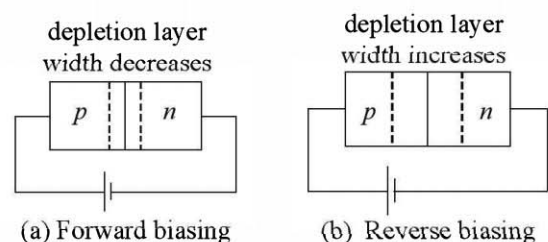
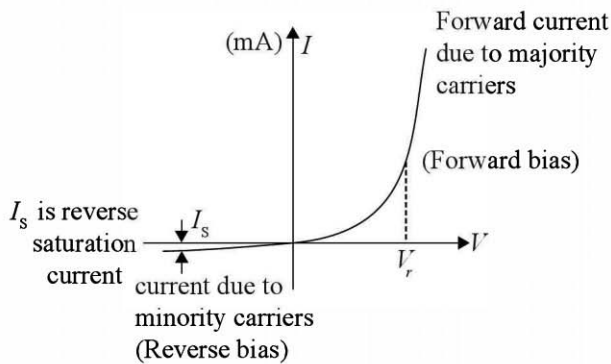
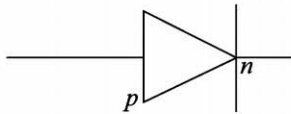

Fig. 19.5 Biasing of  $p$ - $n$  junction
Fig. 19.6 Characteristics of pn junction
Fig. 19.7 Circuit symbol of an ideal pn junction
**Forward biasing** If positive terminal of an external battery is connected to  $p$ -type and its negative terminal to  $n$ -type of the  $pn$  junction then such a biasing is called forward biasing. Forward biasing reduces potential barrier and hence, depletion layer width decreases. The current is due to majority carriers. See Fig. 19.5 (a) and Fig. 19.6. Current is quite large when applied, with forward voltage  $> V_B$  or  $V_r$ .
**Reverse biasing** If positive terminal of external battery is connected to n-type and negative terminal to p-type as shown in Fig. 19.5 (b), then such a biasing is called reverse biasing or back biasing. It increases the barrier potential and hence, depletion layer width. Extremely low current due to minority carrier flows. The current is nearly constant and is termed as reverse saturation current as shown in Fig. 19.6. Fig. 19.7 shows circuit symbol for an ideal diode. It is clear from characteristic curve shown in Fig. 19.6 that *pn* junction acts very closely like a valve.